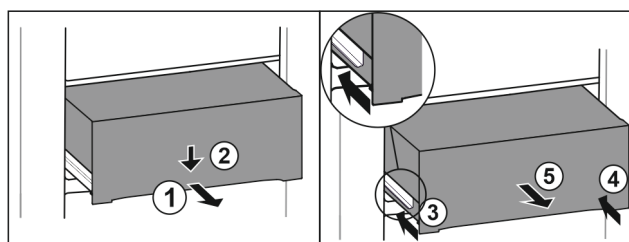

Fig. 123
- Pull out drawer half-way. Fig. 123 (1)
- Push the drawer down at the front. Fig. 123 (2)
- Push the left rail in by about 2 cm. Fig. 123 (3)
- Push the right rail in by about 2 cm. Fig. 123 (4)
- Remove drawer to the front. Fig. 123 (5)